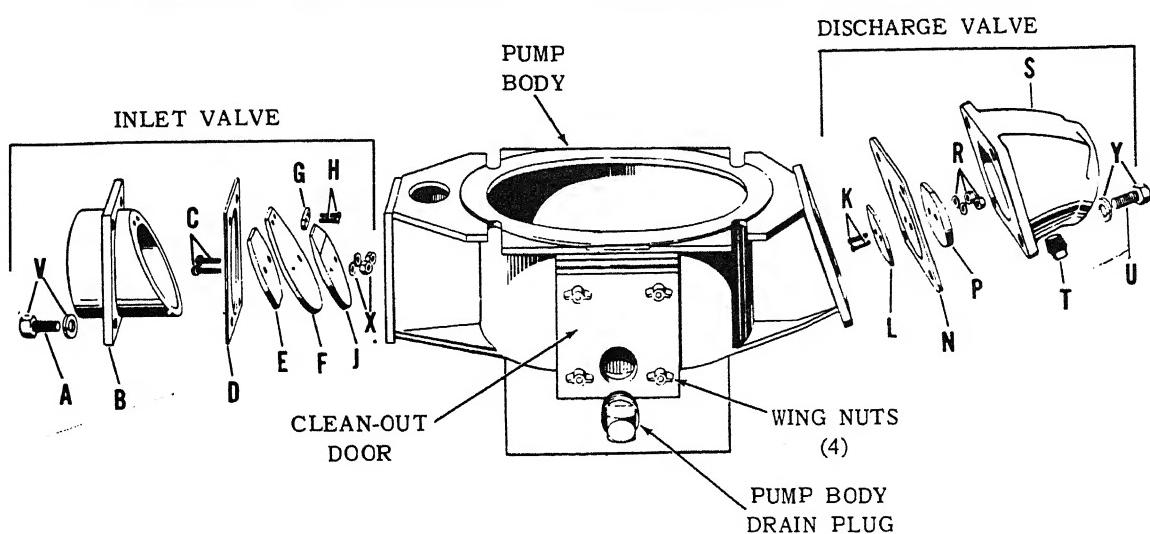

FIGURE 3A
- D. The rubber diaphragm (D) is now fully exposed.
- E. Remove two $\frac{5}{16}$ " brass nuts (E) and remove diaphragm flange (F).
- F. Pull old rubber diaphragm (D) off pump. Clean the inner and outer diaphragm seating areas on pump with a steel brush.
- G. Position new rubber diaphragm (D) in place. Replace diaphragm flange (F) and secure with brass nuts (E). Tighten nuts (E) until diaphragm is slightly depressed. Remove preservative from new diaphragm.
- H. Swing the combination pump top and frame down to its normal position. Secure with the four bolts and nuts (G), taking up a like amount on each nut to equalize pressure on the rubber diaphragm edge.
19. Inlet Valve Repair (Fig. 3A)
- A. With the suction line off (disconnected) and pump drained, or if working conditions permit, suction line may be left on the inlet valve, remove four $\frac{5}{16}$ " nuts and washers (V) from studs (A). Pull inlet valve free from pump body. Do not damage gasket (D). Save for reuse.
- B. Remove two brass screws (H), and keeper (G). Save for reuse. Remove two brass screws (C) with nuts and washers (X). Loosen and remove washer (E) and weight (J).
- C. With new rubber flap valve (F), reassemble flap valve assembly. Replace inlet valve assembly with gasket (D) on pump body and secure with the four $\frac{5}{16}$ " nuts and washers (V) on studs (A).
20. Discharge Valve Repair (Fig. 3A)
Reference for Fig. 3A